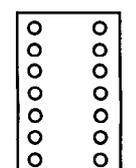

FIGURE 18
2. Connect indicating appliance circuit to TB2-5 (SIG +) and TB2-6 (SIG -) (Fig. 18).
- Configure jumper JW1 as shown in Figure 18. (If unable to determine type of monitoring method being connected to the panel, ask the municipal monitoring facility.)